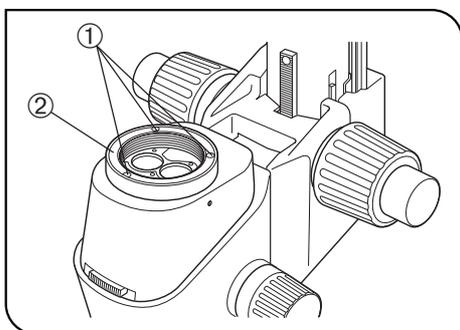

Fig. 27
(Figs. 27 to 29)
3. Remove the objective from the zoom microscope body and then remove the objective mount ② by loosening the three clamping screws ① using the provided Allen wrench (for M3 screws). (Fig. 27)